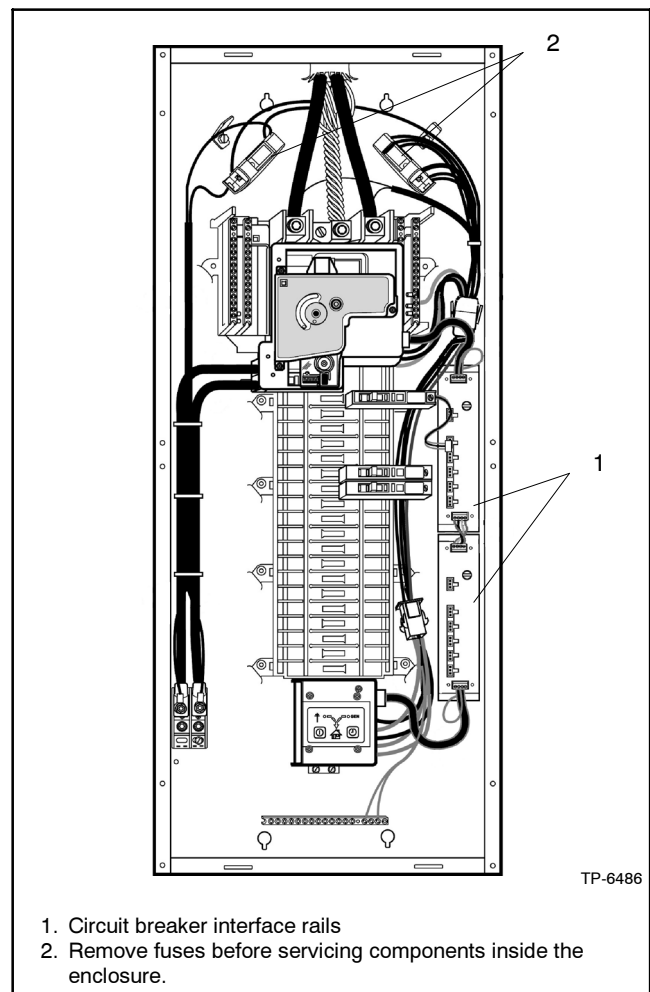
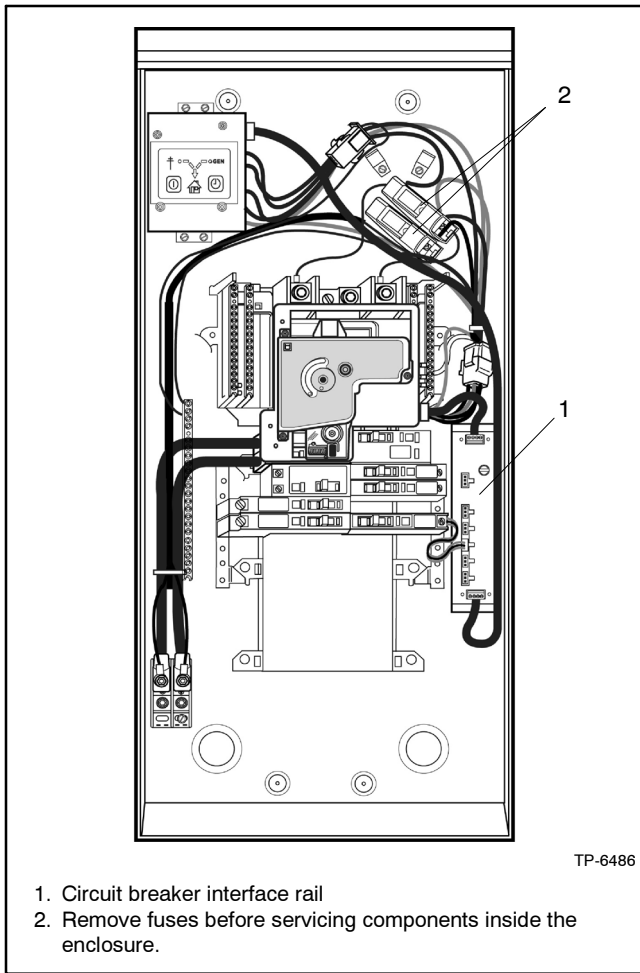

Figure 1 Type 1 Enclosure with Two Circuit Breaker Interfaces
Figure 2 Type 3R Outdoor Enclosure with Circuit Breaker Interface
See Figure 1 and Figure 2 for illustrations of the installed kits.
Remove the fuses located inside the load center enclosure before servicing the transfer switch. See Figure 1 and Figure 2 for the fuse locations.
5. Open the transfer switch enclosure door and remove the fuses inside the load center. See Figure 1 and Figure 2 for the fuse locations.